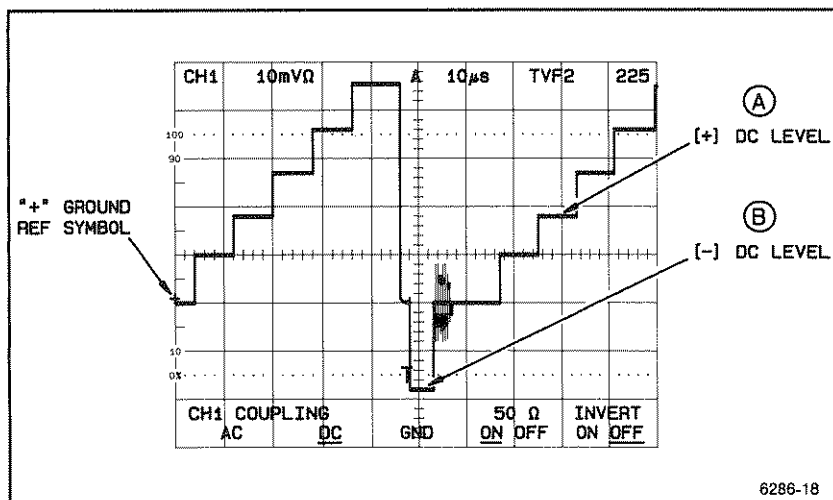

Figure 3-2. Instantaneous DC voltage levels on a waveform.
3. Vertically position the + indicator to a horizontal graticule line. Keep the waveform (or at least the point to be measured) on screen. See Figure 3-2.
Example calculation for the dc level at point B of Figure 3-2: